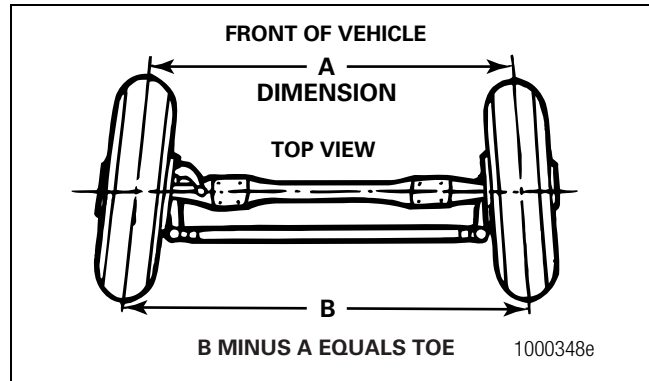

Figure 8.7
7. To obtain the toe measurement, subtract the distance reading between the front of the tires from the distance reading between the back of the tires. Figure 8.7.